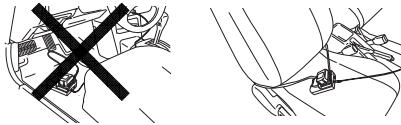

Fig. 13
- Secure the battery charger in place in the car. Use the strap supplied with the battery charger to fasten the battery charger in place and prevent it from moving inadvertently. (See Fig. 13)